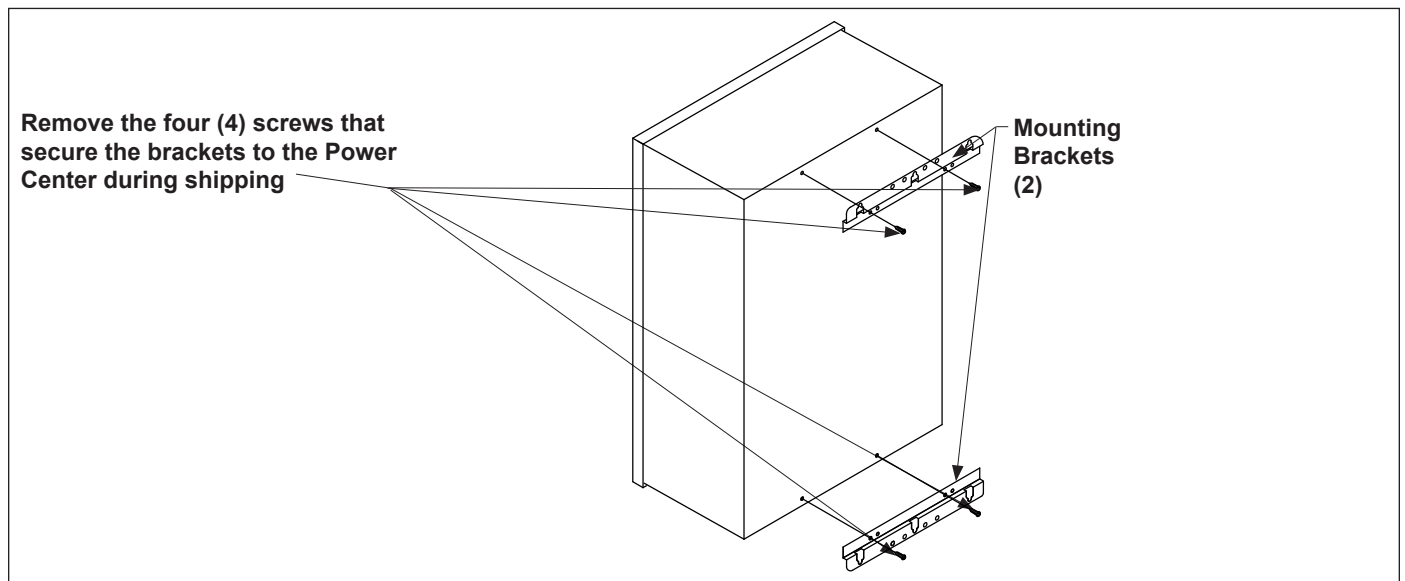

Figure 9. Removing the Power Center Mounting Brackets from Shipping Position
2. The power center comes with two full length, heavy duty mounting brackets *fastened* to the back of the Power Center during shipping. Remove the four (4) screws that are holding the two (2) brackets and the cardboard shipping cover in place (see Figure 9). Remove and discard the cardboard.